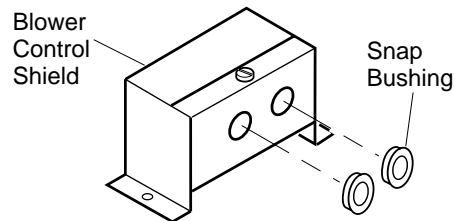

Figure 15 - Installing Snap Bushings
- Install snap bushings found in hardware kit into both holes in rear of blower control shield (see Figure 15).